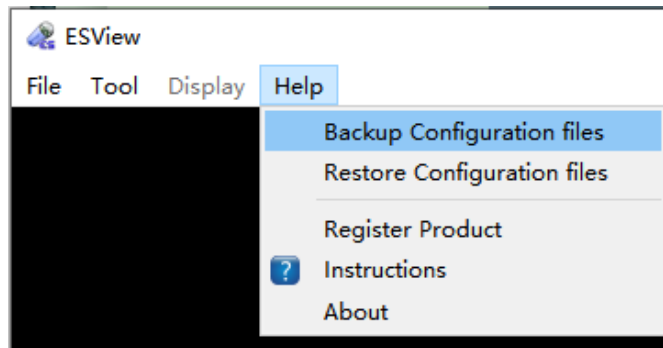

Figure 4-71: Backup Configuration File
3. Select “Help” ▾ “Backup configuration files” in the menu to manually backup the configuration files once. If the backup is successful, a dialog box confirming successful backup will appear (Figures 4-71 and 4-72).